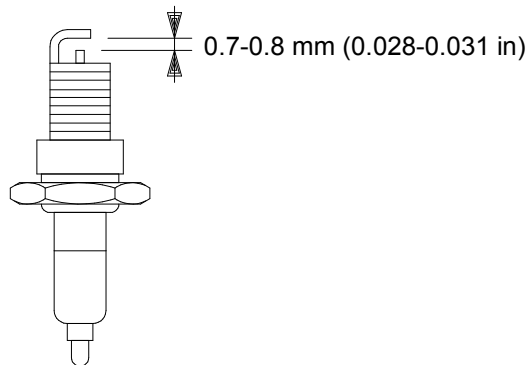

Figure 4-4: Spark Plug Gap
- (6) Visually inspect the spark plug. Discard spark plug if the insulator is cracked or chipped. Clean the spark plug with a wire brush if it is to be reused.
- (7) Measure the plug gap with a feeler gauge. Adjust the gap as necessary by bending the side electrode (Figure 4-4).